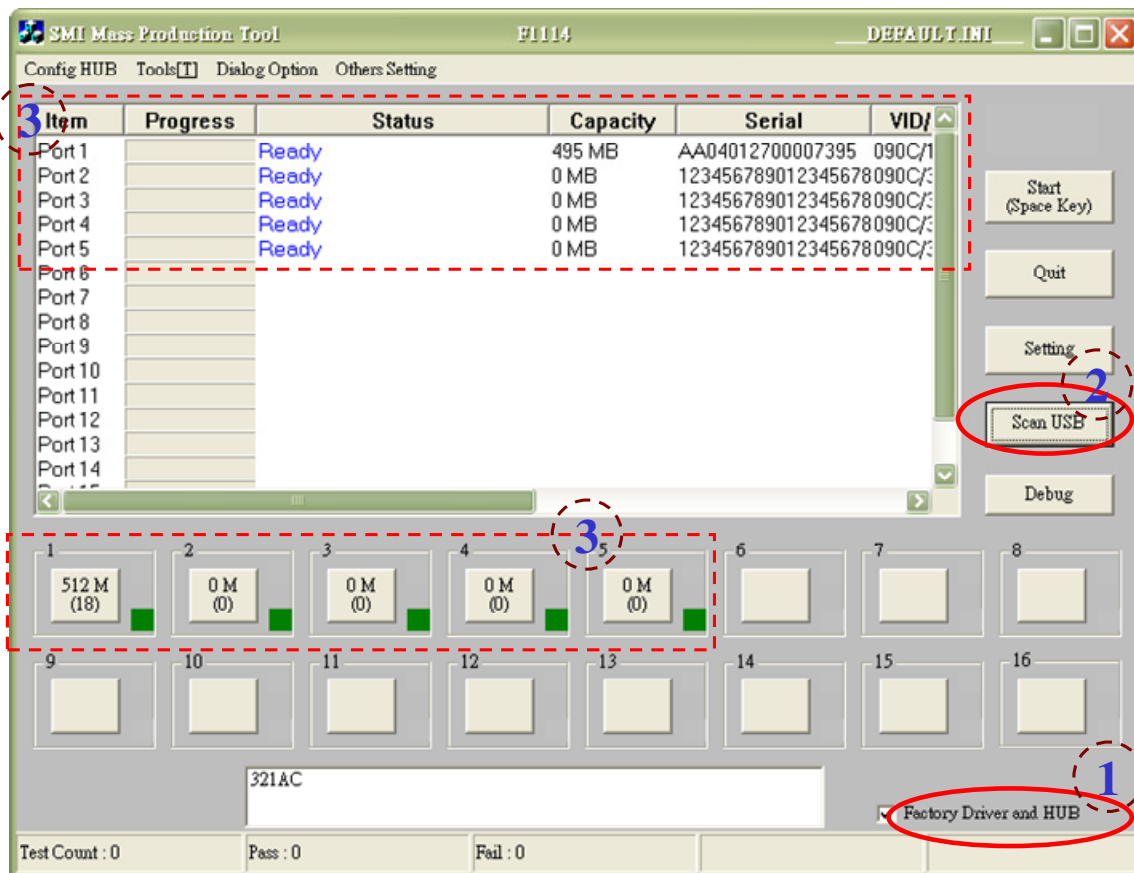

Fig. 10 The result of 「Scan USB」 using 「Factory Driver」
Step 2、 Because test program using the specific driver, so that the 「Factory Driver」 must be selected, and press the 「Scan USB」 for device detect, the button will show the green icon if plugged USB device and configured with 「Config HUB」 function. Otherwise are not changed, the Fig. 10 presents the sub-steps for upper process and result.